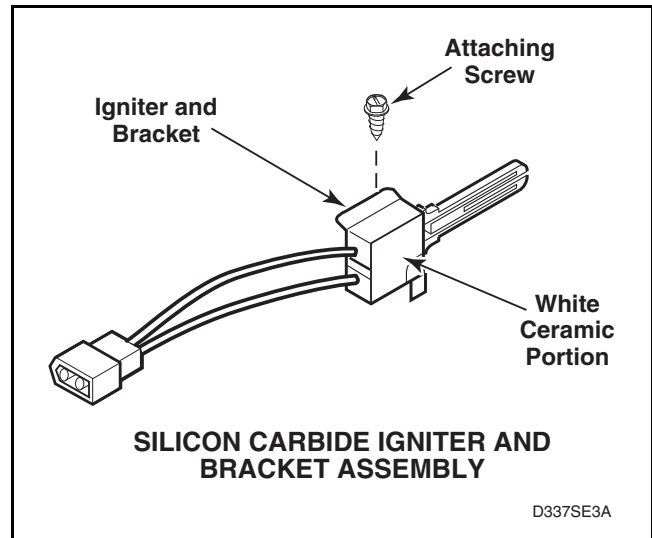

Figure 38
- f. **Silicon Carbide Igniter** – meter should read between 45 – 200 Ohms. Refer to *Figure 38*.